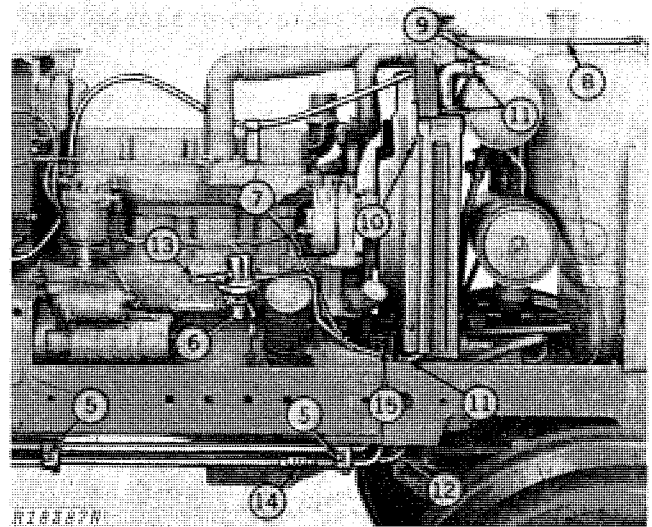

Fig. 8-Right-Hand Removal Procedures
5. Remove hydraulic pipe clamps (Fig. 8).